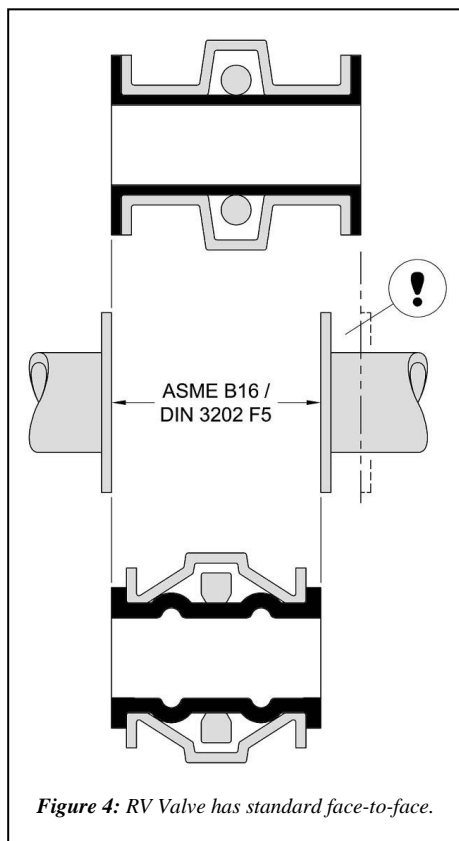

Figure 4: RV Valve has standard face-to-face.
- To allow the face-to-face length of the RV Valve to meet various piping standards (for example ASME B16 and DIN 3202 F5). This enables direct replacement of any valve with common, standard face-to-face dimensions in the field without having to modify piping (Fig. 4). With its patented arch design, the RV Valve sleeve flexes, or stretches, during closure while conforming to a standard face-to-face dimension. Other pinch valves that have straight sleeves and longer face-to-face dimensions must stretch to close the valve increasing fatigue and wear.